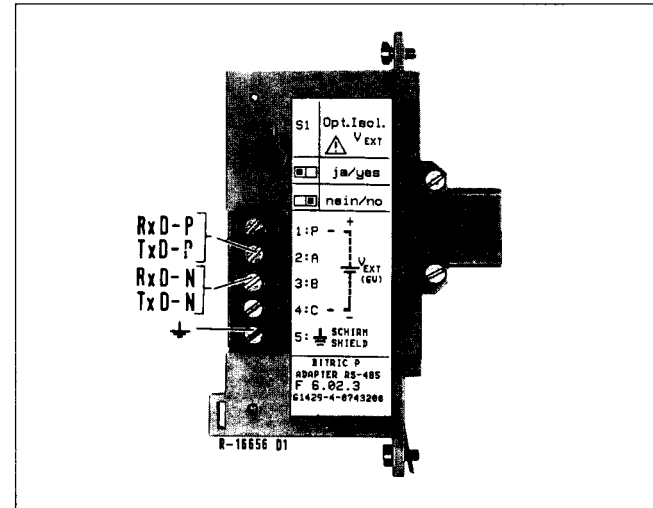

Fig. 11 Connection of serial interface RS-485
The serial interface RS-485 (Fig. 11) can be supplied as option or for a subsequent extension.
Terminal 1 (P)	} 2 data wires Must not be mixed up. Reference conductors: 3 or resp. remaining wires in parallel and, if nec., (-) V_{ext} (see Fig. 11)